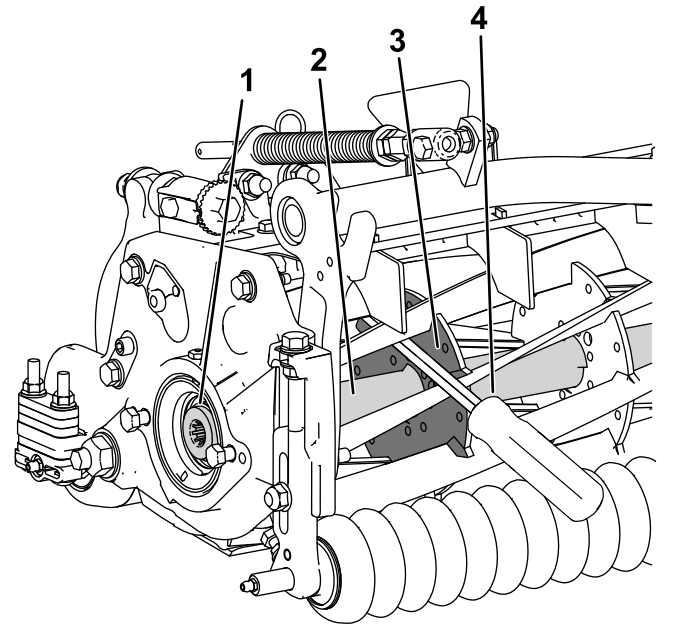

Figure 29
1. Insert a long-handled pry bar (recommended 3/8" x 12" with screwdriver handle) through the front of the cutting reel, closest to the side of the cutting unit that you will be torquing (Figure 29).
2. Place the pry bar against the weld side of the internal cutting reel reinforcement (Figure 29).